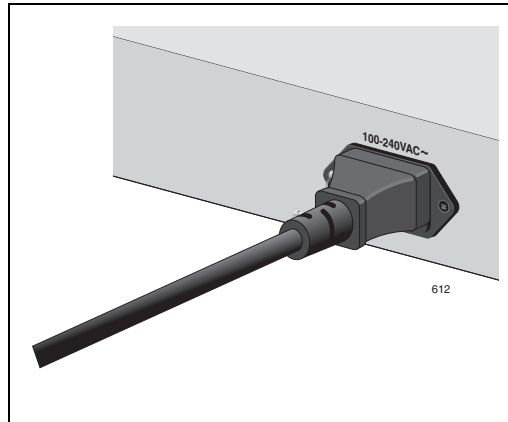

Figure 6. Connecting the AC Power Connector to Switch
5. Apply AC power to the switch by plugging the power cord into the AC power connector on the back panel of the unit, as illustrated in Figure 6.
5. Apply AC power to the switch by plugging the power cord into the AC power connector on the back panel of the unit, as illustrated in Figure 6 on page 31.
7. Apply AC power to the switch by plugging the power cord into the AC power connector on the back panel of the unit, as illustrated in Figure 6 on page 31.